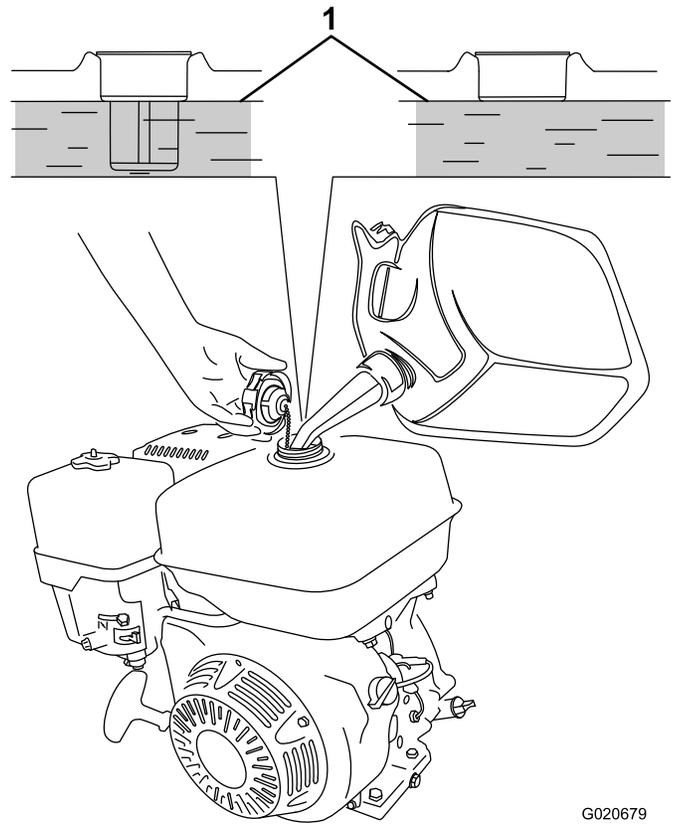

Figure 32
3. Add fuel to the fuel tank, until the level is at the bottom of the maximum fuel level, as shown in Figure 32.